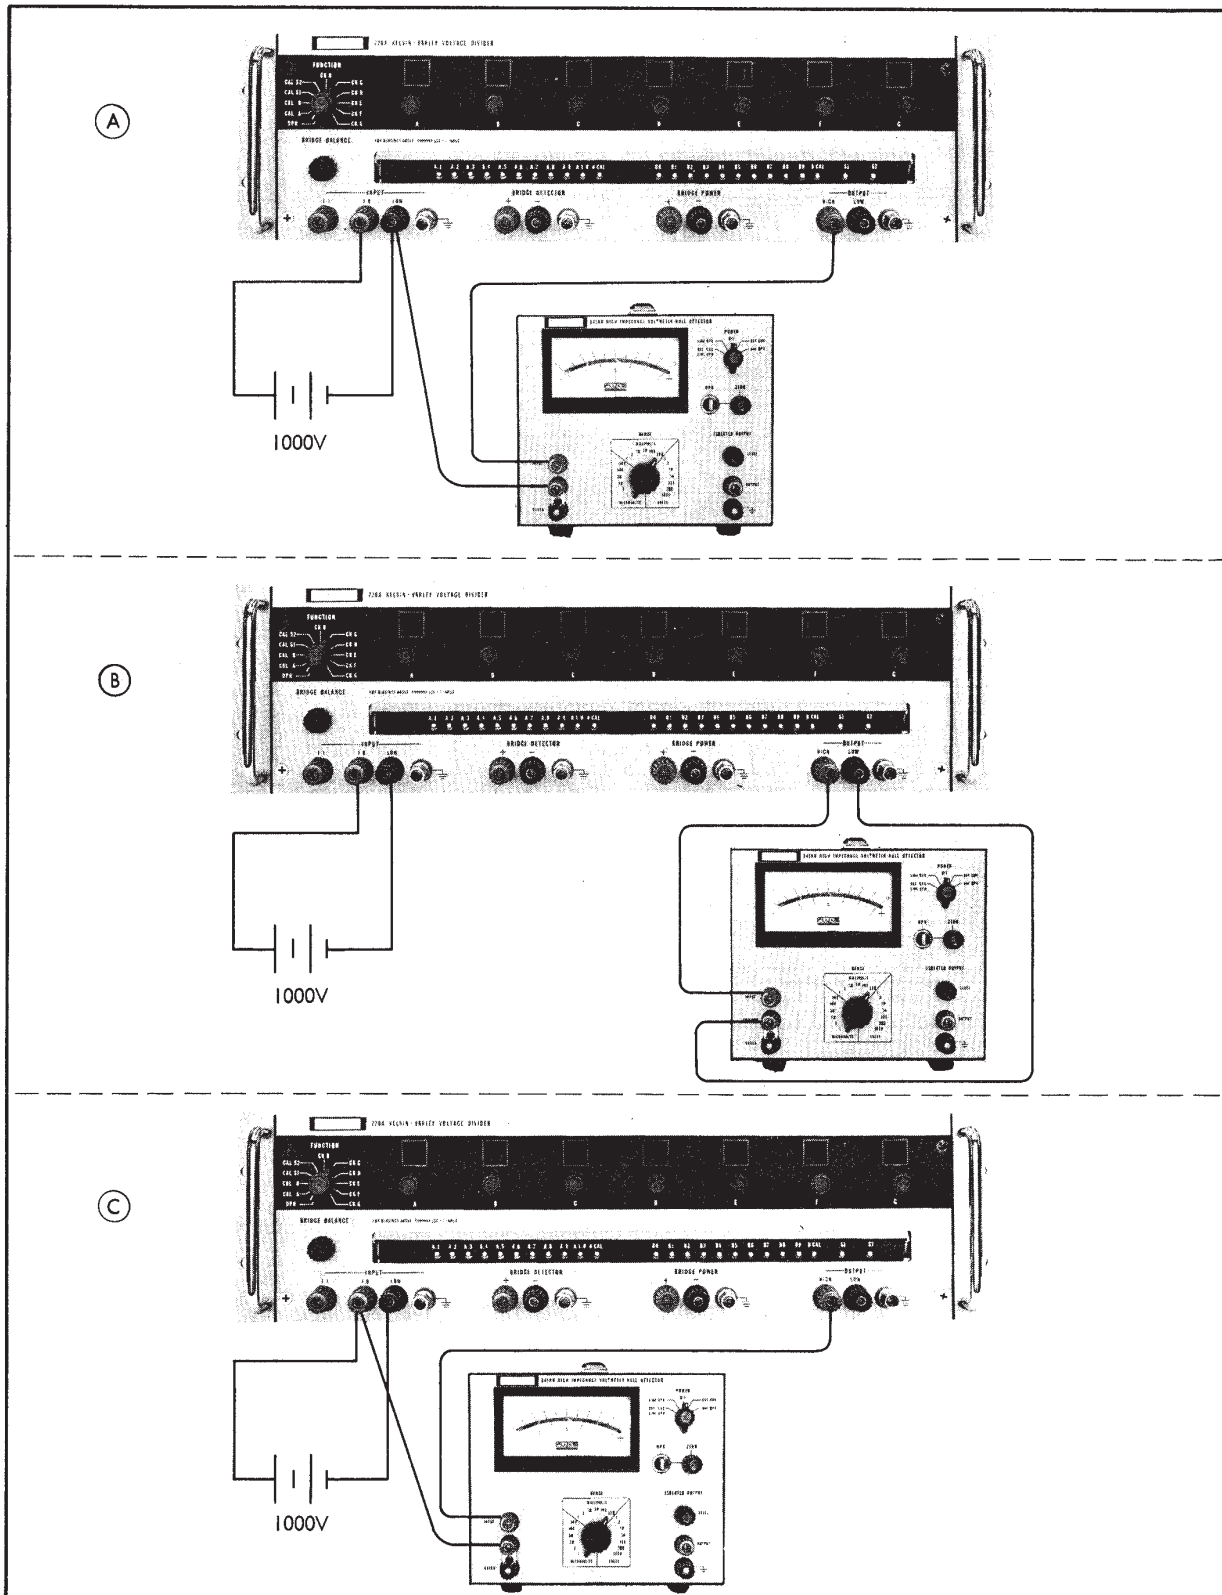

Figure 2-5. CONNECTIONS FOR DETERMINING END ERRORS
- Connect the equipment as shown in Figure 2-5 (A).
- Connect the equipment shown in Figure 2-5 (B).
- Connect the equipment as shown in Figure 2-5 (C).
- Maintain the test set up of Figure 2-5 (C) except move the two leads connected to the 1.0 INPUT terminal to the 1.1 INPUT terminal.